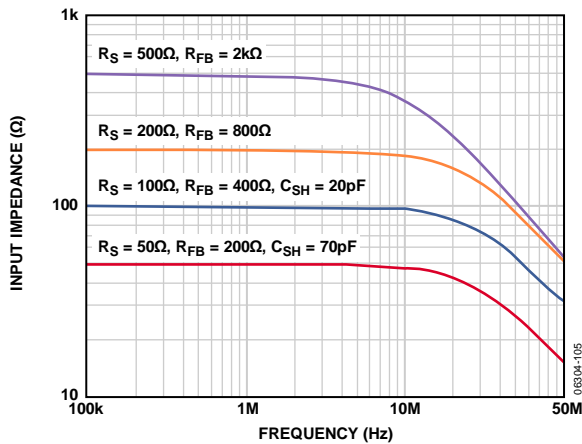

Figure 42. R_{IN} vs. Frequency for Various Values of R_{FB}
The bandwidth (BW) of the LNA is about 70 MHz. Ultimately the BW of the LNA limits the accuracy of the synthesized R_{IN} . For $R_{IN} = R_s$ up to about 200 Ω , the best match is between 100 kHz and 10 MHz, where the lower frequency limit is determined by the size of the ac-coupling capacitors, and the upper limit is determined by the LNA BW. Furthermore, the input capacitance and R_s limit the BW at higher frequencies. Figure 42 shows R_{IN} vs. frequency for various values of R_{FB} .
Note that at the lowest value, 50 Ω , in Figure 42, R_{IN} peaks at frequencies greater than 10 MHz. This is due to the BW roll-off of the LNA, as mentioned previously.